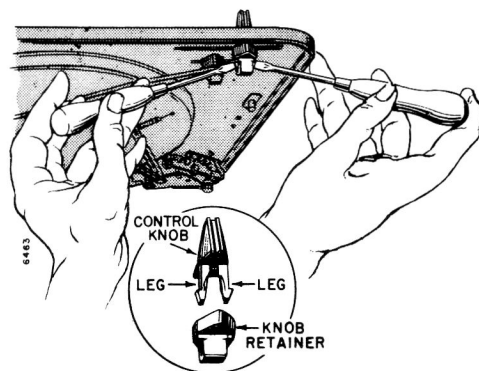

Figure 10. Control Knob Disassembly.
To disassemble the control knob from its knob retainer, refer to the illustration in figure 10 and proceed as follows:
1. Place a small screwdriver at each leg tip projecting from sides of knob retainer as shown in figure 10.